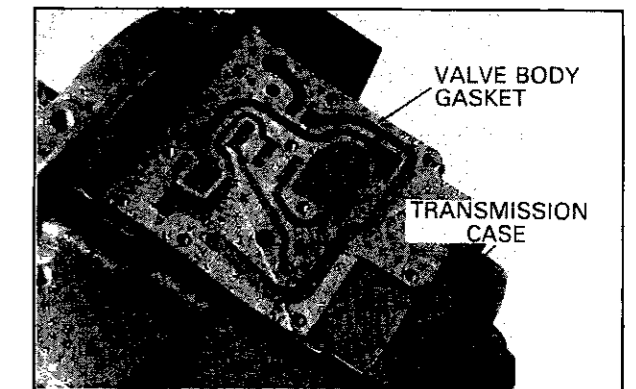
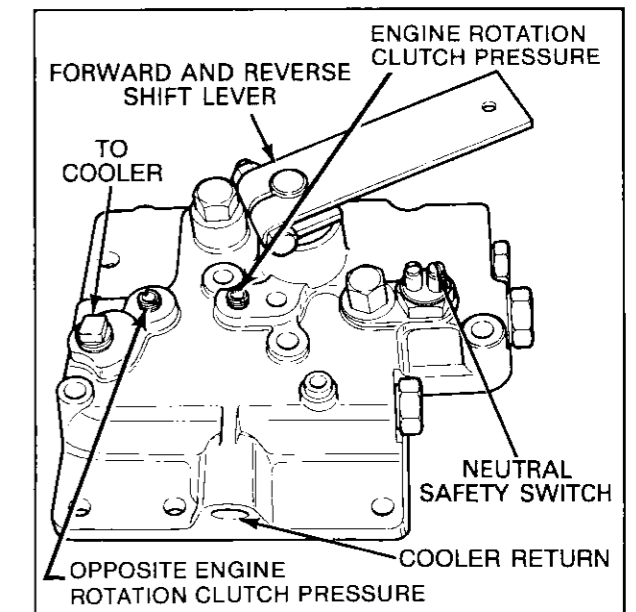

FIG. 53 VALVE BODY GASKET INSTALLATION
FIG. 54 VALVE BODY INSTALLATION
64. Place the valve body over the gasket (Fig. 53). Install and tighten valve body bolts (Fig. 54) to 15-20 pounds-feet (20-27 N·m).